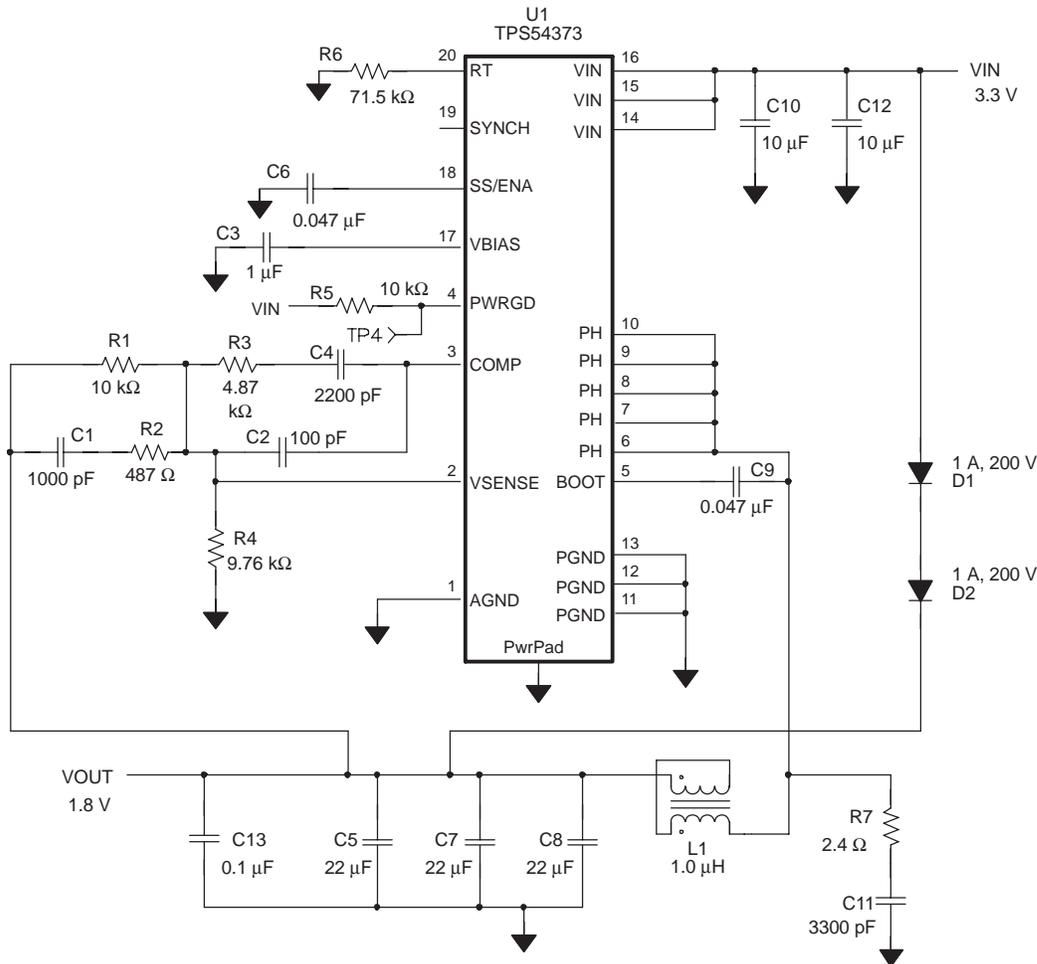
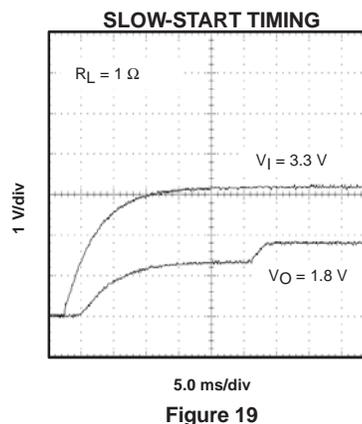

Figure 10. Application Circuit
Figure 19
⁽³⁾ Specified by the circuit used in Figure 10
(1) Specified by design
(2) Static resistive loads only
(3) Specified by the circuit used in Figure 10
(4) Matched MOSFETs low-side r_{DS(on)} production tested, high-side r_{DS(on)} specified by design
Figure 10 shows the schematic diagram for a typical TPS54373 application. The TPS54373 (U1) can provide up to 3 A of output current at a nominal output voltage of 0.9 V to 3.3 V, and for this application, the output voltage
Data shown is for the circuit in Figure 10 with precharge disabled (D1 and D2 removed) except for slow-start timing of Figure 19. All data is for $V_I = 3.3\text{ V}$, $V_O = 2.5\text{ V}$, $f_s = 700\text{ kHz}$ and $T_A = 25^\circ\text{C}$, unless otherwise specified.